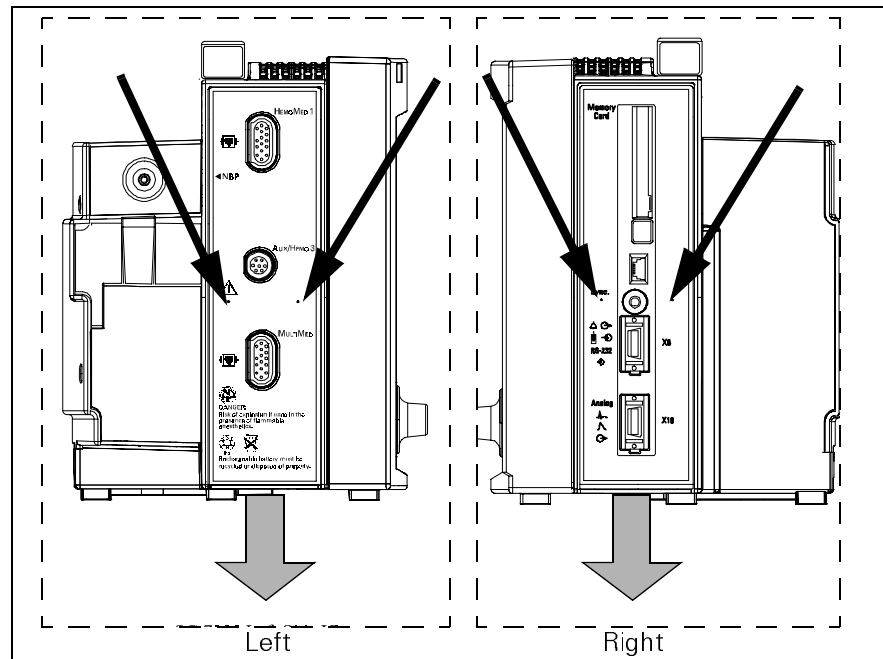

Figure 3-5 Removing Left and Right Side Panels (SC 7000 left side panel shown in illustration)
- 2) With PCMCIA card ejector shaft cover removed, press firmly on dots below each side of sync output connector (see narrow arrows in Figure 3-5), to release latch.
- 3) While pressing on dots, slide panel downward (see broad arrows in Figure 3-5) to release locking tabs, and then lift cover off of monitor.
- 2) Press firmly on dots just below each side of IBP connector port shown in Figure 3-5 (SC 7000 side panel used in illustration), to release latch.